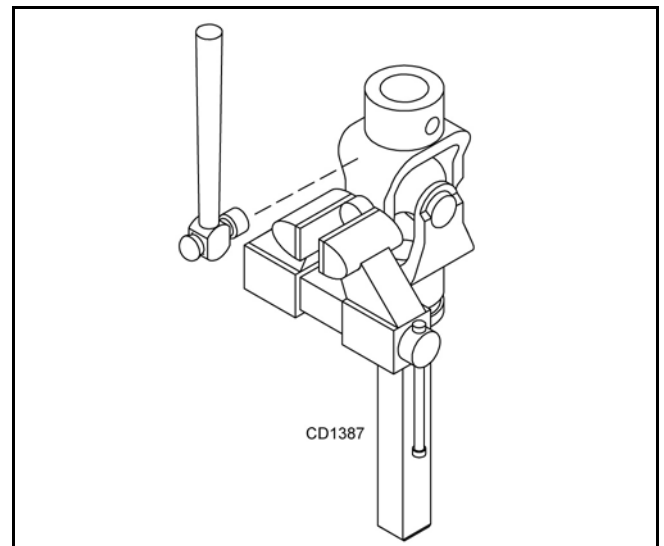

Figure 18
3. Clamp cup in vise as shown in Figure 18 and tap on yoke to completely remove cup from yoke. Repeat step 2 and step 3 for opposite cup.